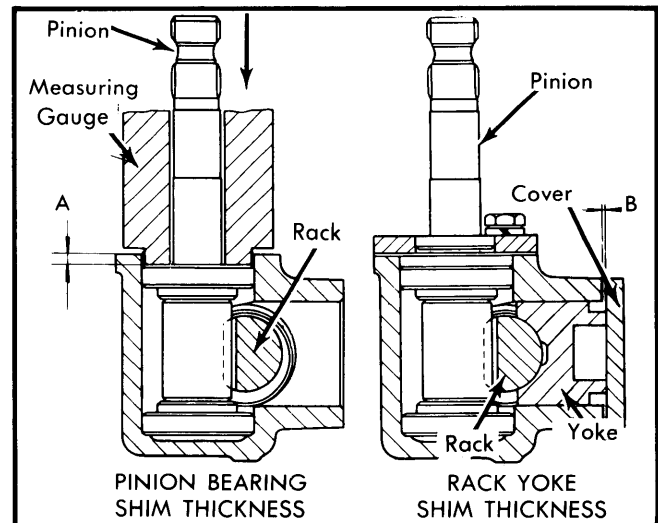

Fig. 2 Measurement of Rack Yoke Shim Thickness and Pinion Bearing Shim Thickness
2) Remove cover, plate and seal from drive pinion side of rack housing. Using suitable driver, make sure upper bearing is firmly seated. Measure distance "A" from top of bearing to pinion cover facing. See Fig. 2. Add $.003 \pm .002$ (.078 \pm .053 mm) to dimension "A" and install shims centered on pinion to make up new dimension. Install plate, cover and seal.
3) Center rack in its travel. Remove cover, shims and spring to gain access to rack thrust block. While holding rack thrust block against rack, turn pinion through 180° in both directions. Measure dimension "B" from top of rack thrust block to cover facing. See Fig. 2. To "B" add $.0035 \pm .0015$ (.09 \pm .04 mm). Combine shims to make up new dimension. Install spring, shims and cover.